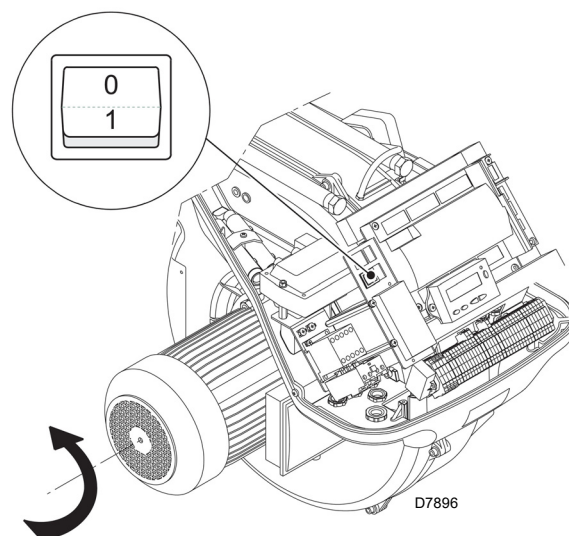

Fig. 28
Close the thermostats/pressure switches and turn the switch of Fig. 28 to position "1".
As soon as the burner starts up, go in front of the cooling fan of the fan motor and check it is rotating anticlockwise. See Fig. 28.
- place the switch of Fig. 28 in position "0" and wait for the flame control to carry out the switch-off phase;
The burner is in the heat request waiting mode, or the selector “0-1” (Fig. 28 at page 34) is in the “0” position.
With the selector “0-1” (Fig. 28 at page 34) the burner does not stop immediately, but the switch-off phase is activated.